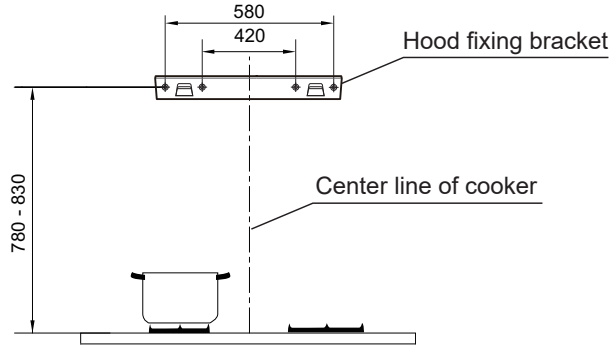

Fig.1
1. According to Fig.1 (Drilling diagram for installation), use an electric impact drill to make 4 holes with a diameter of 10 mm and a depth of 50-60 mm at the corresponding positions on the wall where the range hood is installed, embed the plastic expansion tubes, and use 4 screws (M5 X 50) to fix the hood fixing bracket to the wall.